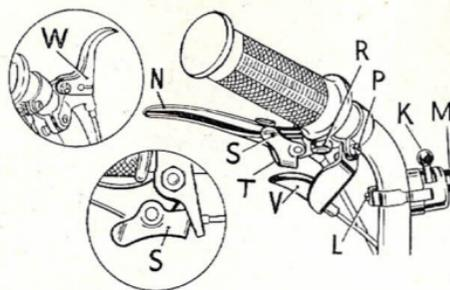

FIG. 2.
Headlight Switch:—The “on/off” switch (*K*) Fig. 2, can be moved after slackening screw (*L*).
Rear Brake Lever:—The position of this lever (*N*) Fig. 2, can be altered following the slackening of the screw (*P*). Tighten securely after adjustment. Grip the lever to operate the brake. The looseness of the lever is adjusted by rotation of the screw (*R*), after releasing its locknut.
Parking:—Whenever your Ariel 3 is left unattended, apply the rear brake and lock in position by means of the latch (*S*) Fig. 2. To release, grip the brake lever, withdraw the latch, and secure it in the “safe” position at (*T*).
Carburetter Air Control (or “Choke”):—The trigger-type lever (*V*) Fig. 2, operates the shutter at the mouth of the carburetter and can be repositioned only in conjunction with the rear brake lever. This control provides a rich mixture for cold starting purposes only. Cable adjustment is described on page 12, and should be such that a small amount of slackness is present. **NOTE:**—The trigger lever (*W*) is sometimes provided as an alternative to lever (*V*).
To Start Off:—Open the fuel tap (C) Fig. 4, and release the parking brake. Rotate the twist grip control to its limit in the direction of the arrow (G) Fig. 1, in order to operate the decompressor, and then pedal the machine in the normal manner. As soon as it is moving at a moderate speed, grip the air control lever (V) or (W), as the case may be, Fig. 2, and turn the twist grip in the direction of the arrow (D) Fig. 1, until the decompressor is inoperative and the throttle is partially opened, when the engine will start. Immediately the engine is running, release the air control lever, and cease pedalling. **NOTE:**—Excessive use of the air control may cause quantities of neat petrol to collect in the crankcase, making starting very difficult. If the engine is warm, do not operate the air control lever.